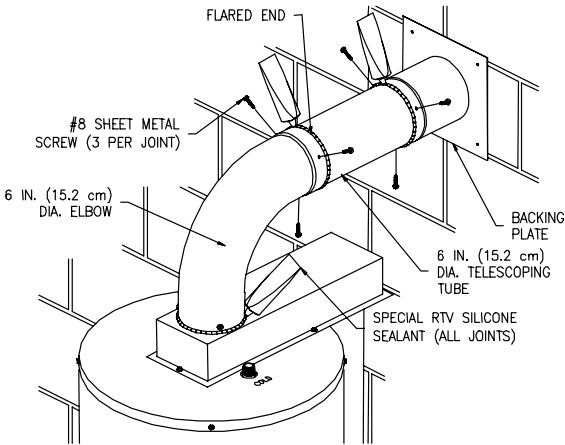

Figure 18
9. From inside the building, slide the backing plate over the six (6) inch (15.2 cm) diameter telescopic tube(s) until it is flush with the wall. Adjust the length of the six (6) inch (15.2 cm) diameter telescopic tube(s) and insert the end into the flared end of the six (6) inch (15.2 cm) diameter elbow one (1) inch (2.5 cm) (or until seated). Drill three (3) 1/8 inch (3.2 mm) diameter holes, 120° apart, through the six (6) inch (15.2 cm) diameter elbow into the six (6) inch (15.2 cm) diameter telescopic tube(s) and through the tubes where the small and large sections overlap. Fasten with three (3) #8 sheet metal screws (supplied). Using the supplied RTV silicone sealant, apply a sufficient amount to seal all joints. (See Figure 18).